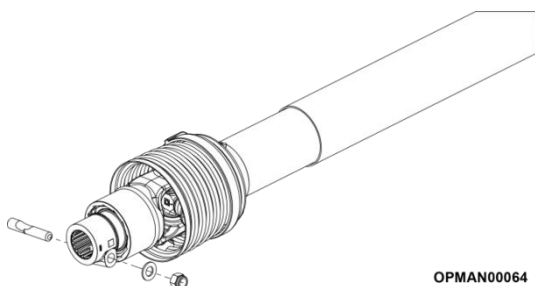

Figure 4.12 – Remove Taper Pin
- 4.5.1.8 To then completely remove the shaft, remove the taper pin, flat washer and nut from the machine end; see Figure 4.12.